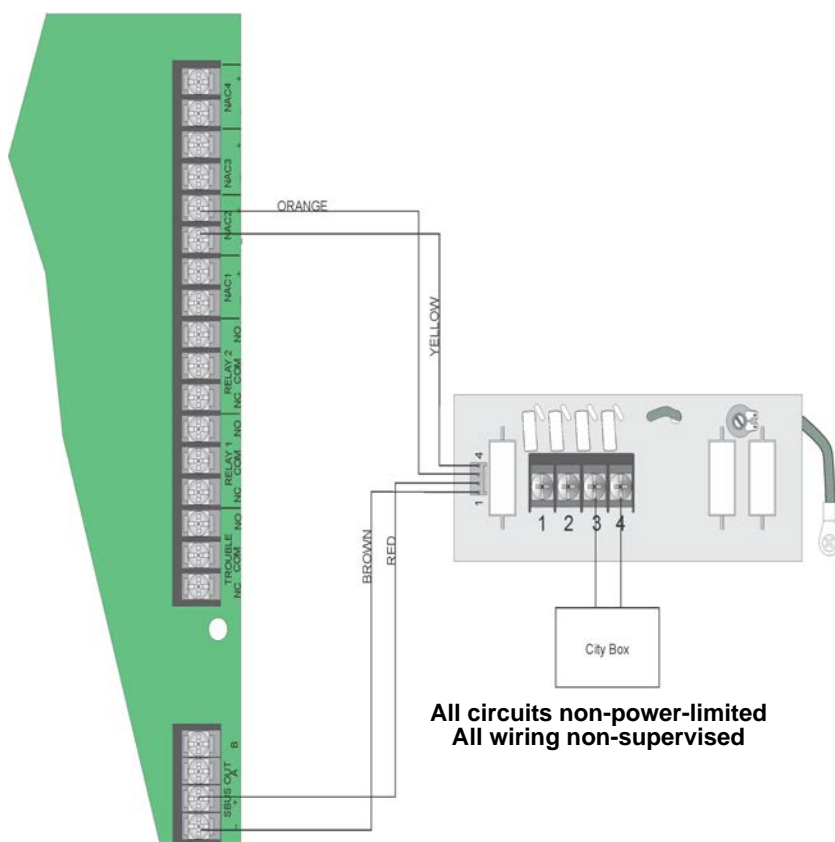

Figure 4.55 City Box Connection
2. Wire the 5220 to the control panel as shown in Figures 4.55. This drawing also shows how to connect the city box coil to terminals 3 and 4 on the 5220.